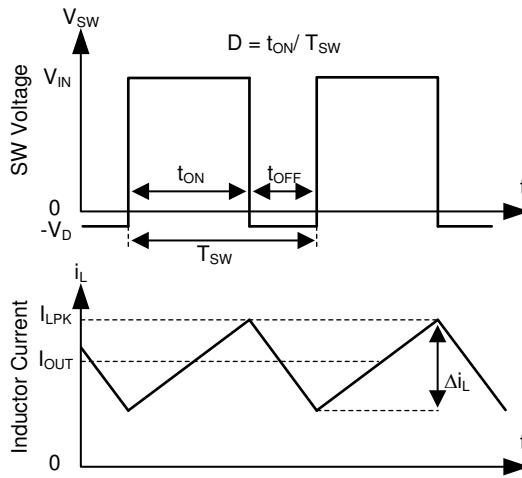

Figure 10-2. SW Node and Inductor Current Waveforms in Continuous Conduction Mode (CCM)
The TPS2585x-Q1 offers a compact solution that achieves up to 6.6 A of continuous output current with excellent load and line regulation over a wide input supply range. The TPS2585x-Q1 supplies a regulated output voltage by turning on the high-side (HS) and low-side (LS) NMOS switches with controlled duty cycle. During high-side switch ON time, the SW pin voltage swings up to approximately V_{IN} . The inductor current i_L increases with linear slope $(V_{IN} - V_{OUT}) / L$. When the HS switch is turned off by the control logic, the LS switch is turned on after an anti-shoot-through dead time. Inductor current discharges through the LS switch with a slope of $-V_{OUT} / L$. The control parameter of a buck converter is defined as Duty Cycle $D = t_{ON} / T_{SW}$, where t_{ON} is the high-side switch ON time and T_{SW} is the switching period, shown in Figure 10-2. The regulator control loop maintains a constant output voltage by adjusting the duty cycle D. In an ideal buck converter, where losses are ignored, D is proportional to the output voltage and inversely proportional to the input voltage: $D = V_{OUT} / V_{IN}$.